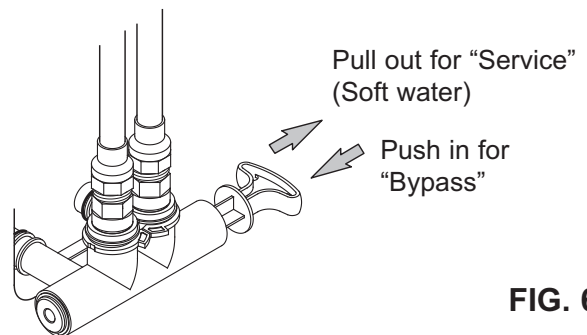
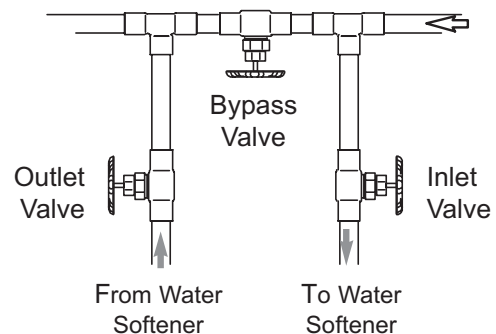

FIG. 6
FIG. 7
Always install either a single bypass valve (provided), as shown in Figure 6, or, if desired, parts for a 3 valve bypass system (not included) can be purchased and assembled, as shown in Figure 7. Bypass valves allow you to turn off water to the softener for maintenance if needed, but still have water in house pipes. Pipe fittings must be 3/4" minimum.
2. Place the bypass valve (single or 3 valve) into the "bypass" position. See Figures 6 & 7 on Page 7.